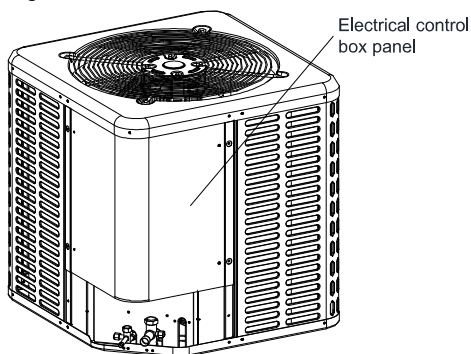

Figure 13-2
1. Remove the electrical control box panel. Refer to Figure 13-2.